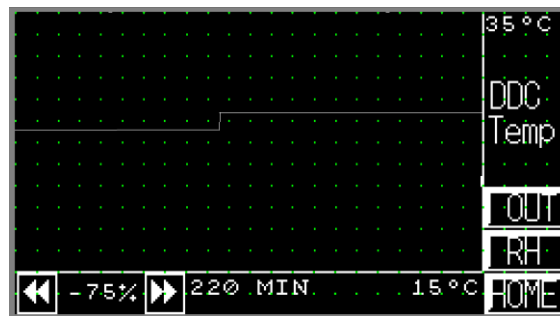

FIGURE 6
D. IMPROVE ANALYSIS TOOLS SUCH AS TEMPERATURE AND HUMIDITY GRAPHS. ACTING ON "GRAPH" BUTTON (VIEW DETAIL E) IT IS POSSIBLE TO DISPLAY THE GRAPHS OF TEMPERATURE AND HUMIDITY (FIG. 6 TO 8)